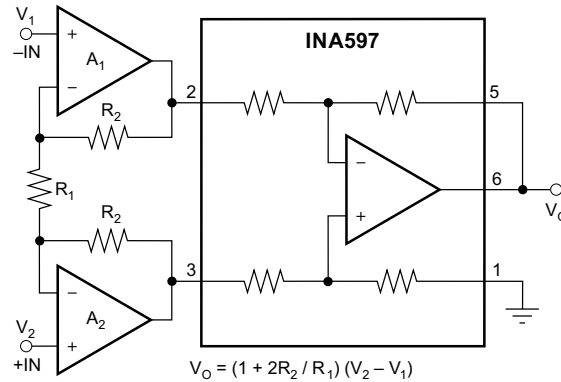
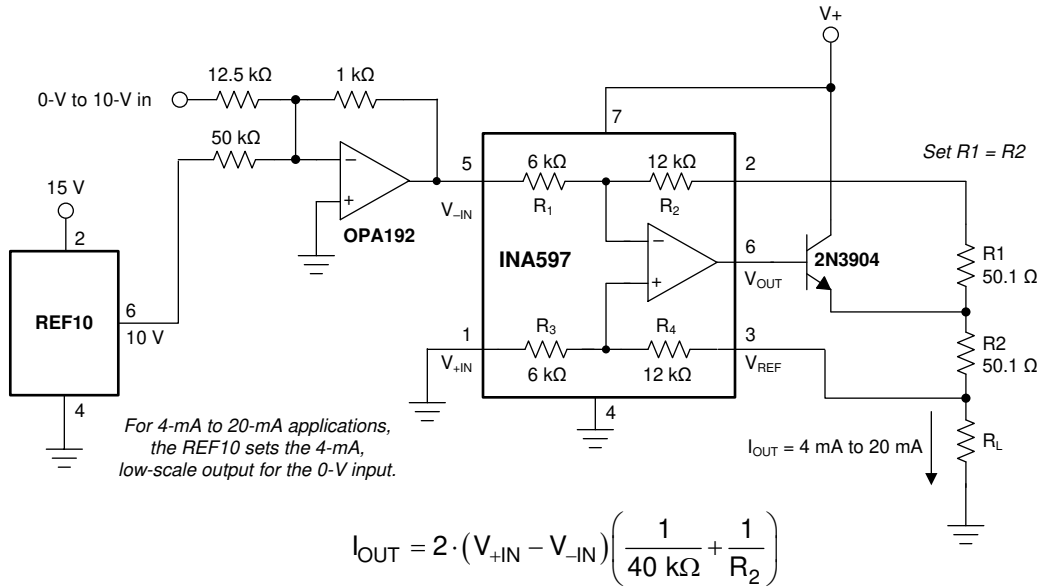

Figure 9-5. Precision Instrumentation Amplifier
Figure 9-9. Precision Voltage-to-Current Conversion
The INA597 measures voltages beyond the rails. For the $G = \frac{1}{2}$ and $G = 2$ difference amplifier configurations, see the input voltage range in Section 7 for details. The INA597 can be configured in several ways; see Figure 9-5 to Figure 9-9. These configurations rely on the internal, matched resistors; therefore, all of these configurations have excellent gain accuracy and gain drift.
The INA597 can be combined with op amps to form a complete instrumentation amplifier (IA) with specialized performance characteristics, as shown in Figure 9-5.